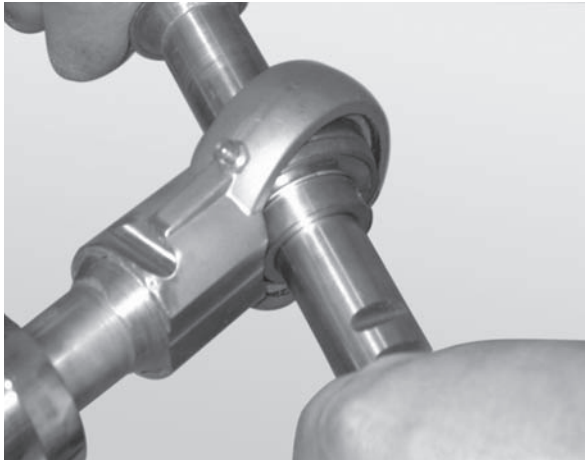

Figure 84
2. Insert the rod end of a second bearing shaft through the bearing (**Figure 84**).